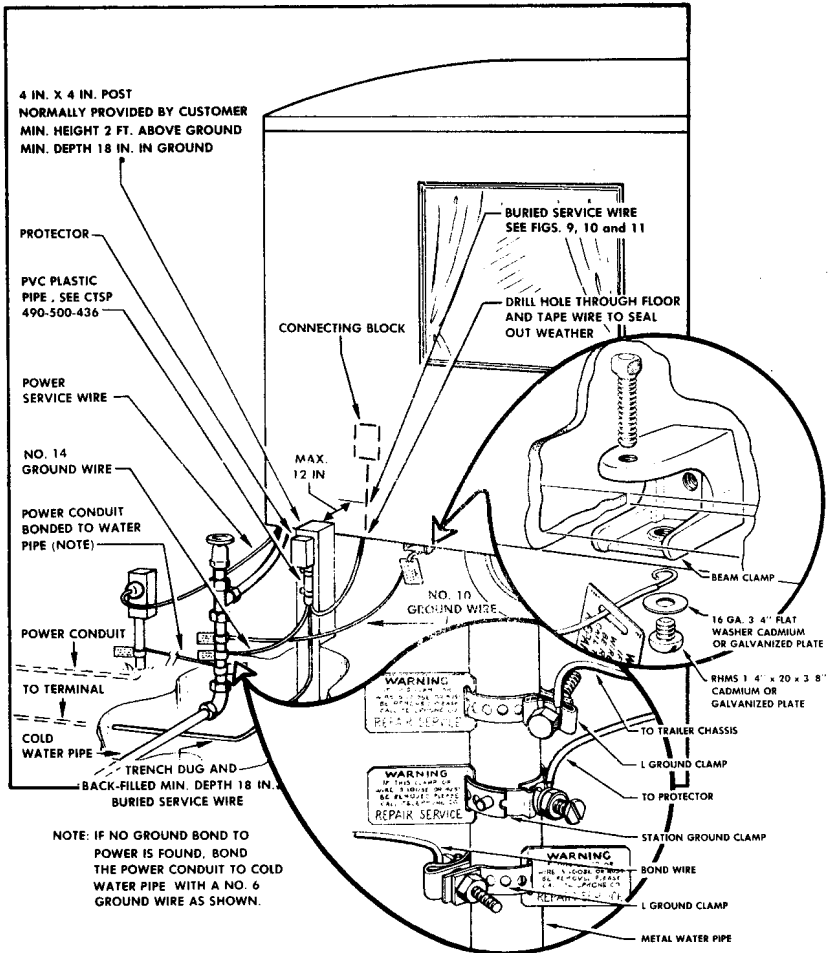

FIGURE 2. Typical Installation - Buried Distribution Water Pipe Ground
b. For **buried installations**, the pole should be 4 inches by 4 inches and extend a minimum of 2 feet above the ground. See Figure 2. The base of the pole (or post) should be set into the ground a minimum of 18 inches, as shown in Figure 2.